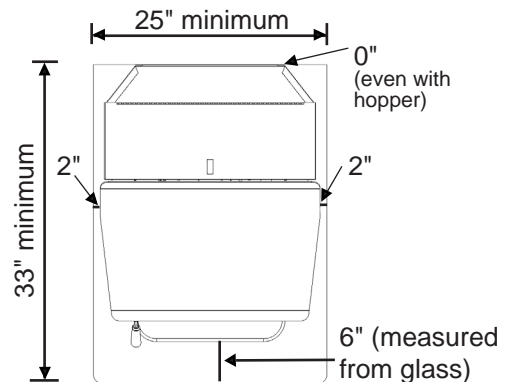

Fig. 6
Place the stove on a noncombustible floor protector that extends a minimum of 6 inches to the front, 2 inches to the sides and flush with the rear of the hopper. See Fig. 6. The minimum floor protector material is 20 gauge sheet metal. Other floor protector materials are ceramic tile, stone, brick, etc.
*The chimney should be inspected and cleaned before installing your stove. If you discover that the chimney does not have a clay tile liner or has cracks or flaking of the tile liner you will need to install a stainless steel liner within the chimney. In most cases the inside diameter of this liner should be 4". Either flexible or rigid liner may be used for this purpose. Refer to Fig. 6 & 7.